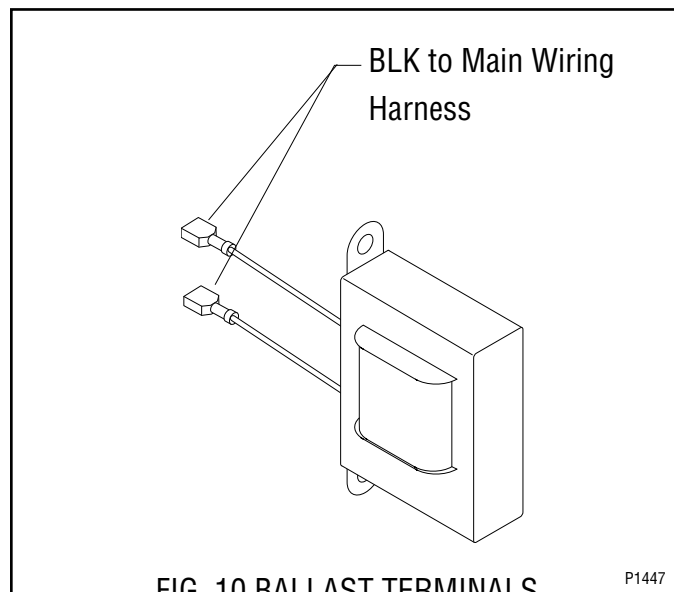

FIG. 10 BALLAST TERMINALS
5. Refer to Fig. 10 when reconnecting the wires.